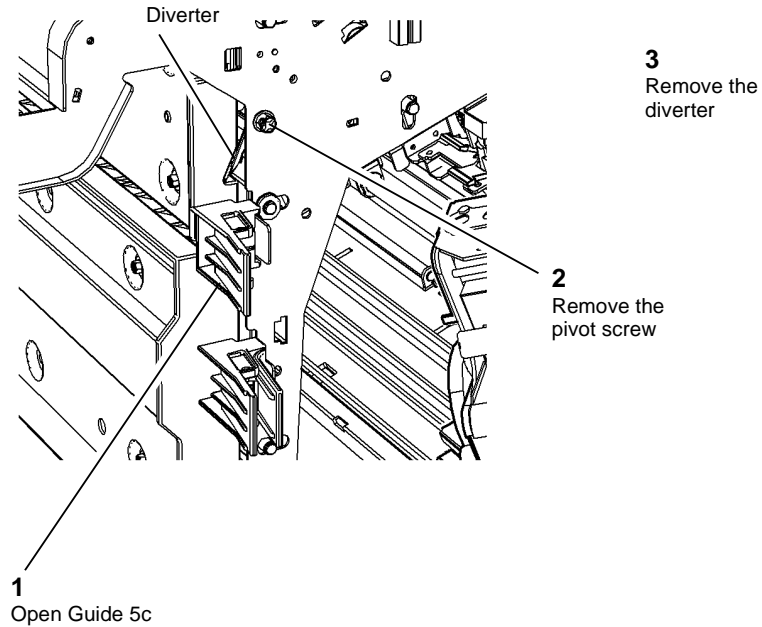

Figure 2 Diverter removal
3. **Figure 2.** Remove the diverter exit gate.